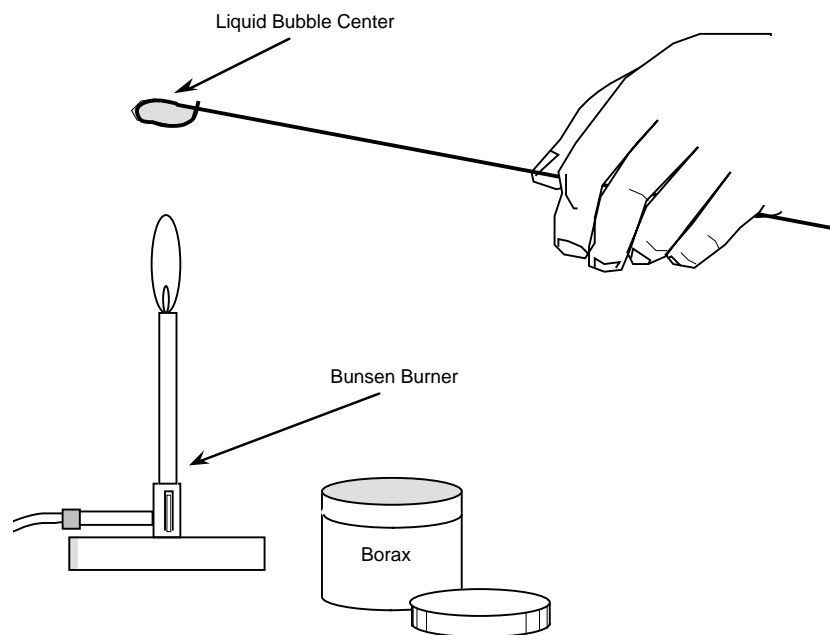

Figure 6.2. Glass Bead on a Wire
2. With needle-nose pliers, form a closed, oblong loop on the end of the wire approximately 7 mm long and 3 mm wide (see Figure 6.2).
4. Dip heated end into borax, then carefully heat with torch until glass bead is formed. If bead is too small or incomplete, then dip it in borax again and heat until desired bead is formed. Continue melting the bead until it forms a droplet that is glassy and transparent. To keep the bead from dripping, gently rock or rotate the wire. Note: Overheating will evaporate the borax, do the melting in the cool, outer portion of the flame as demonstrated in Figure 6.2.